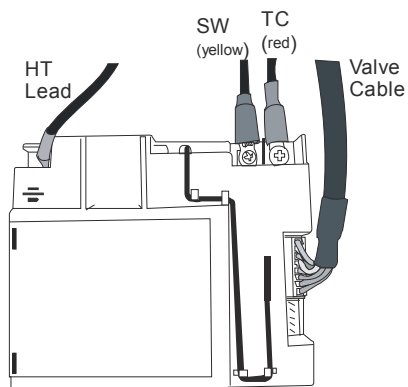

Figure 49
3. Feed the cables from the valve through the heat shield and connect to the receiver as shown in **Figure 49**, keeping the cables clear of the underside of the tray. Do not force the valve cable plug when inserting into the receiver – it only fits one way.
4. Position the receiver under the heat shield as shown in **Figure 49**.